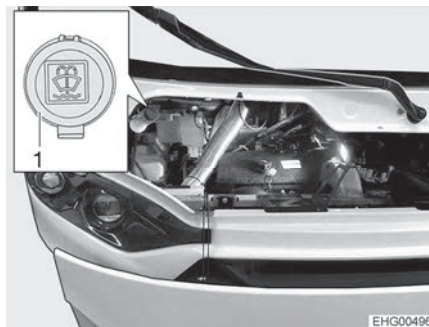

Fig. 11 Filler neck (windscreen washer fluid)
- Open the lid (Fig. 11,1) on the filler neck of the washer fluid container.